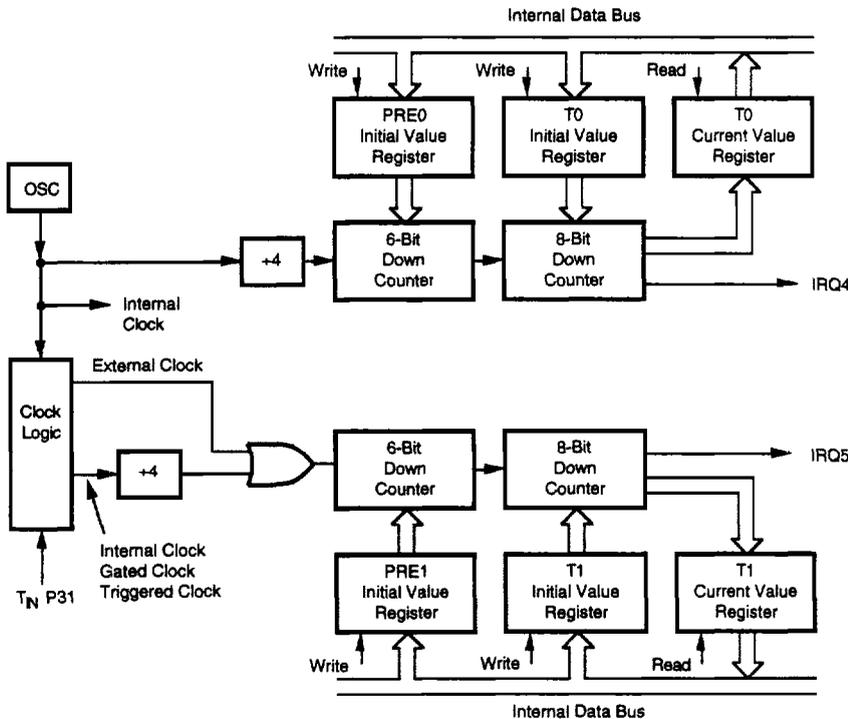

Figure 11. Counter/Timers Block Diagram
**Counter/Timer.** There are two 8-bit programmable counter/timers (T0 and T1), each driven by its own 6-bit programmable prescaler. The T1 prescaler can be driven by internal or external clock sources, however the T0 can be driven by the internal clock source only (Figure 11).